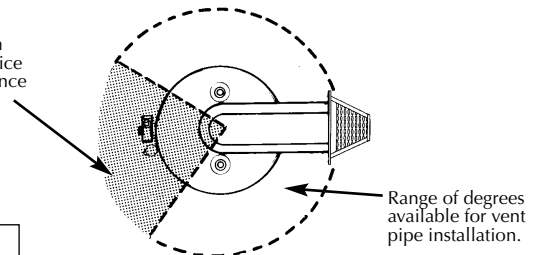

Figure 6
- The location selection must provide clearances for servicing and proper operation of the water heater. Figure 6.